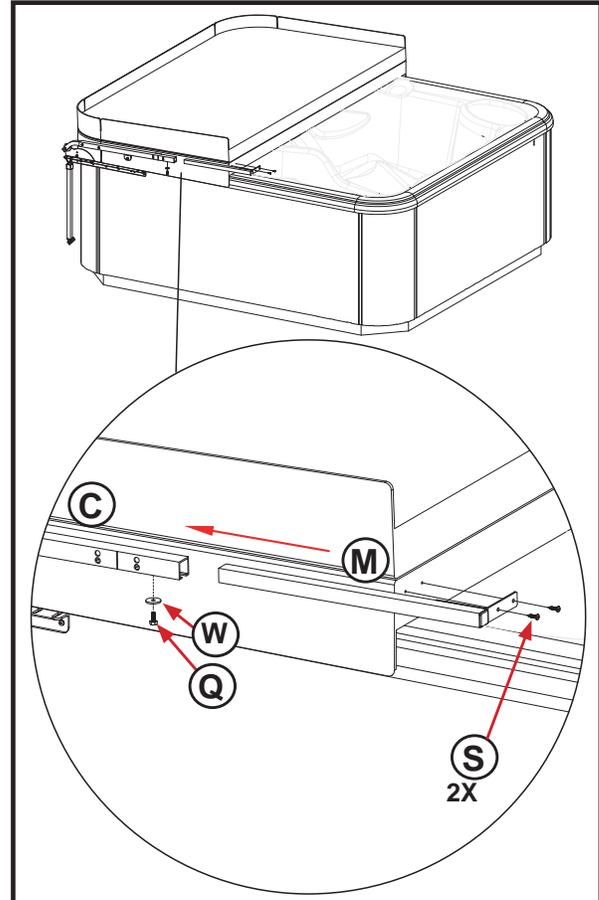

Figure 4.4
- Secure Angle Bracket (R) to cover using (2) of the Pan Head Screws (Figure 4.4). Bag #1 (S) (#10 1/2" Pan Head screws).
- Tighten the 1/4" Hex Head Bolt (Q) and Washer (W) with 7/16" wrench below the Side Assembly Channel (C) to secure the Extension Tube (M) to the Side Assembly Channel (C). See (Figure 4.4).